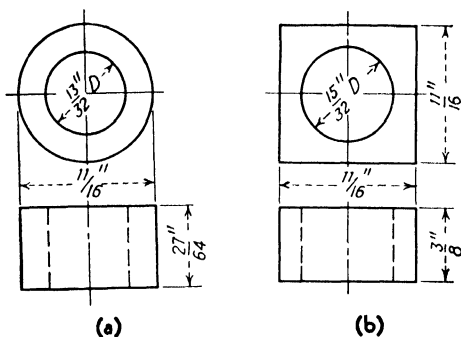

Fig. 93.
15. Find the weight of 1,000 of each of the steel items shown in Fig. 93.